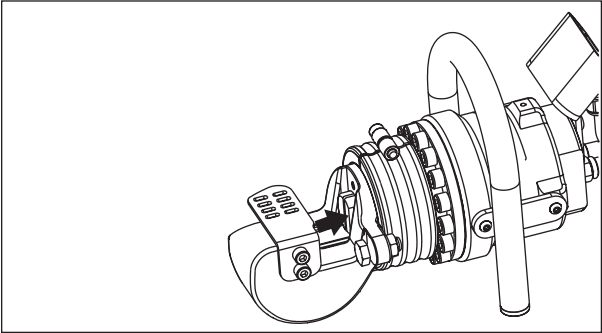

Figure 6, Piston and Blade in Home Position (fully retracted)
Always be sure that the piston and moving blade are in the fully retracted “home” position before placing any material inside the cutting head. See Figure 6.
2. Be sure that the piston is in the “home” (fully retracted) position. See Figure 6.